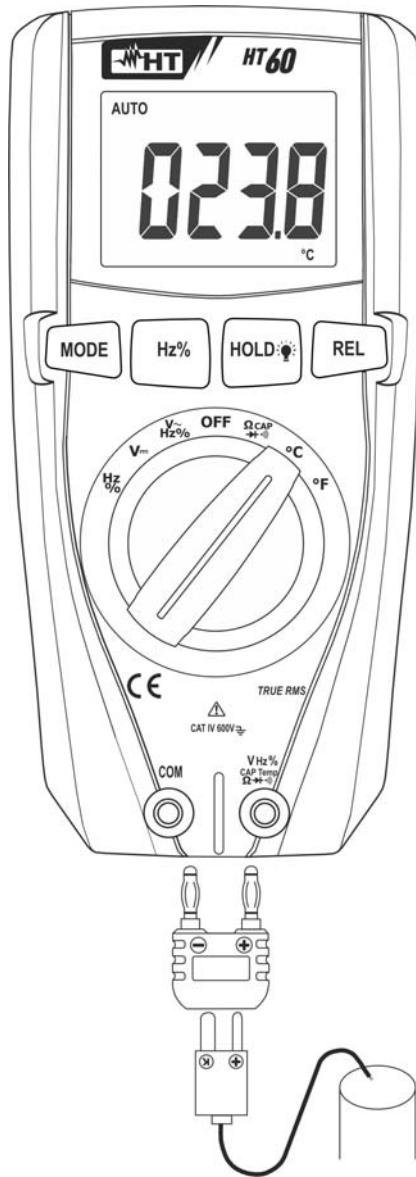

Fig. 8: Use of the instrument for Temperature measurement
2. Insert the provided adapter into input terminals **VHz%CAPTemp Ω►•** (polarity +) and **COM** (polarity -) (see Fig. 8).